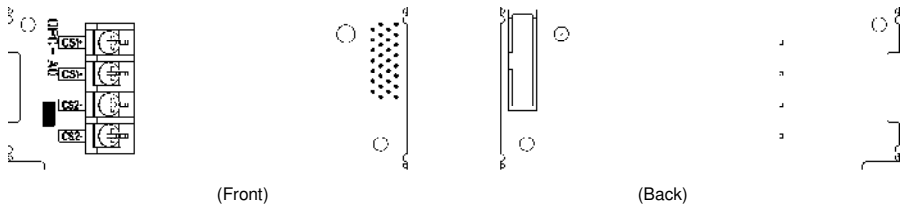

Figure 1.1 Name of Parts on Analog Output Interface Card (OPC-AO)
- (1) An interface card, two screws (M3 × 8), and the Analog Output Interface Card Instruction Manual (this manual) are contained in the package.
- (2) The interface card is not damaged during transportation--no defective parts, dents or warps.
- (3) The model name "OPC-AO" is printed on the interface card. (See Figure 1.1.)